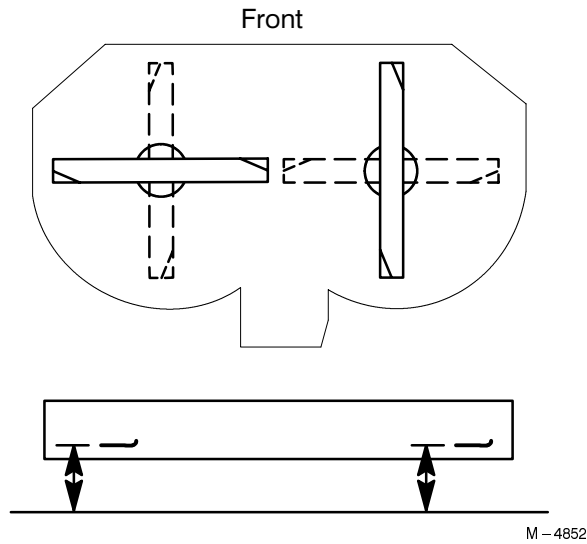

Figure 45
1. Rotate the blades until the ends face forward and backward (Fig. 45). Measure from a level surface to the cutting edge tip of the blades (Fig. 45). Note this dimension.